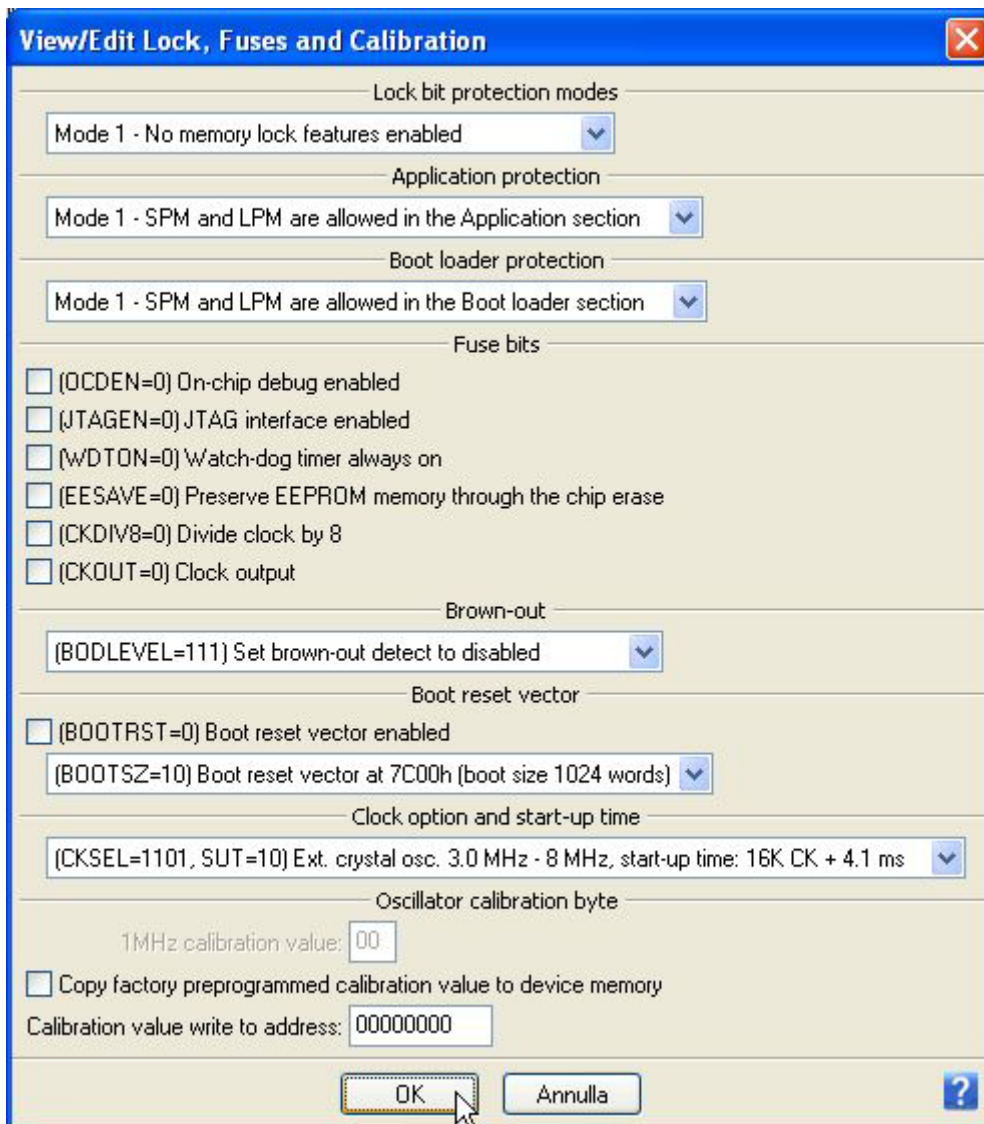

FIGURE D13: FUSES AND LOCK BITS SETTINGS WITH PG4UW
- i) Open the fuses and protection bits configuration window by pushing the couple of buttons *Alt+s* or by using the link or the icon that can be found in the main window of the **PG4UW**. Execute the settings requested by the user's application, remembering that they might influence the right functioning of the Mini Mode so they must be set by paying attention otherwise the whole system won't work properly. The figure D13 reports a setting which is valid for the card demo, without any protection. It is important to remember that the configuration supplied by **grifo**® is different because the Bootloader in FLASH and its protection are active.